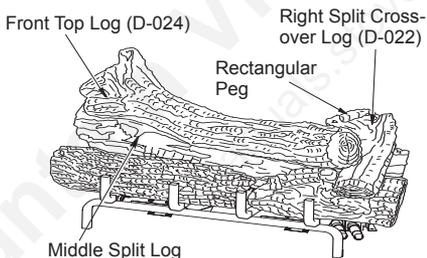

Figure 28 - Installing Front Top Log
- Find the front top log (D-024). See Figure 28. The left end of this log has a square hole that fits over a square peg that is on the top of the middle split log. The right end of this log rests behind the knot on the top of the front right log.